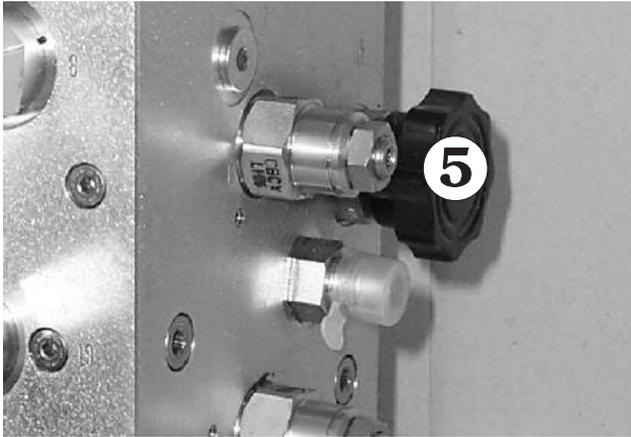
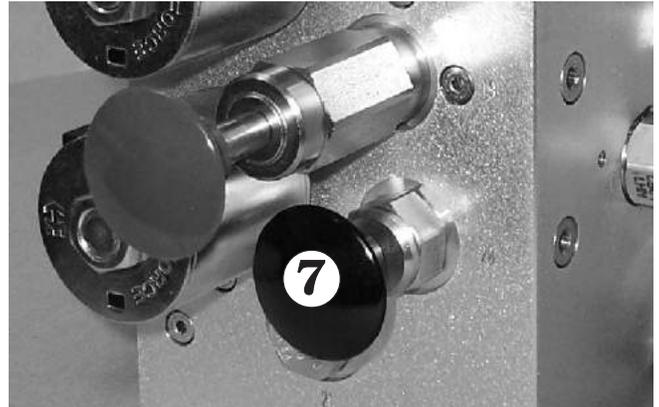

Figure 9.9
Figure 9.11
- Inside the hydraulic compartment, open the free-wheeling valve ⑤ by turning counterclockwise until knob stops. (see Figure 9.9).
- Once the unit has been safely pushed / towed pull the re-set knob ⑦ to re-apply the brakes (see Figure 9.11) and close the free-wheel valve ⑤ (see Figure 9.9).